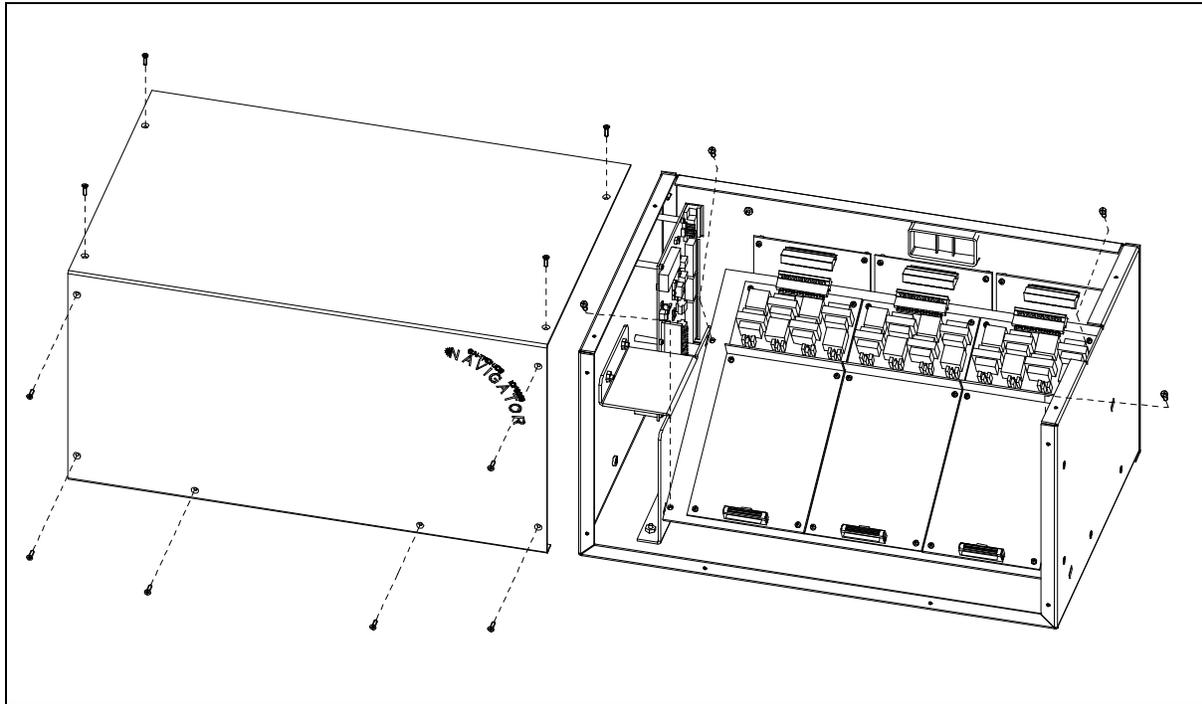

Figure 4.
3. Remove the 10 screws securing the side cover panel and gently lift the cover off. See Figure 4.
4. Remove the 4 screws attaching the mounting plate to the main enclosure. This allows you to remove the mounting plate giving you access to the main control PCBA. See Figure 4.